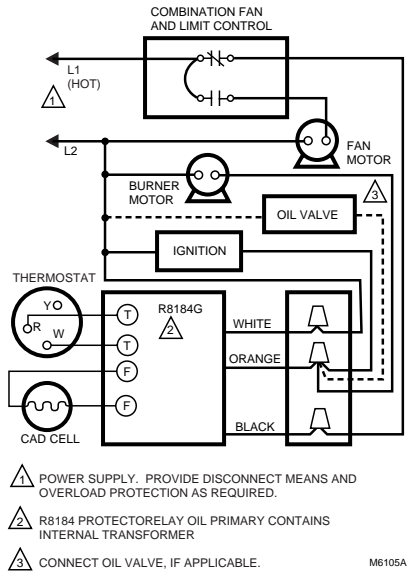

Fig. 2. Typical oil heating system.
1. Connect the system wires to the wallplate as shown in Fig. 2 through 6. A letter code is near each terminal for identification.